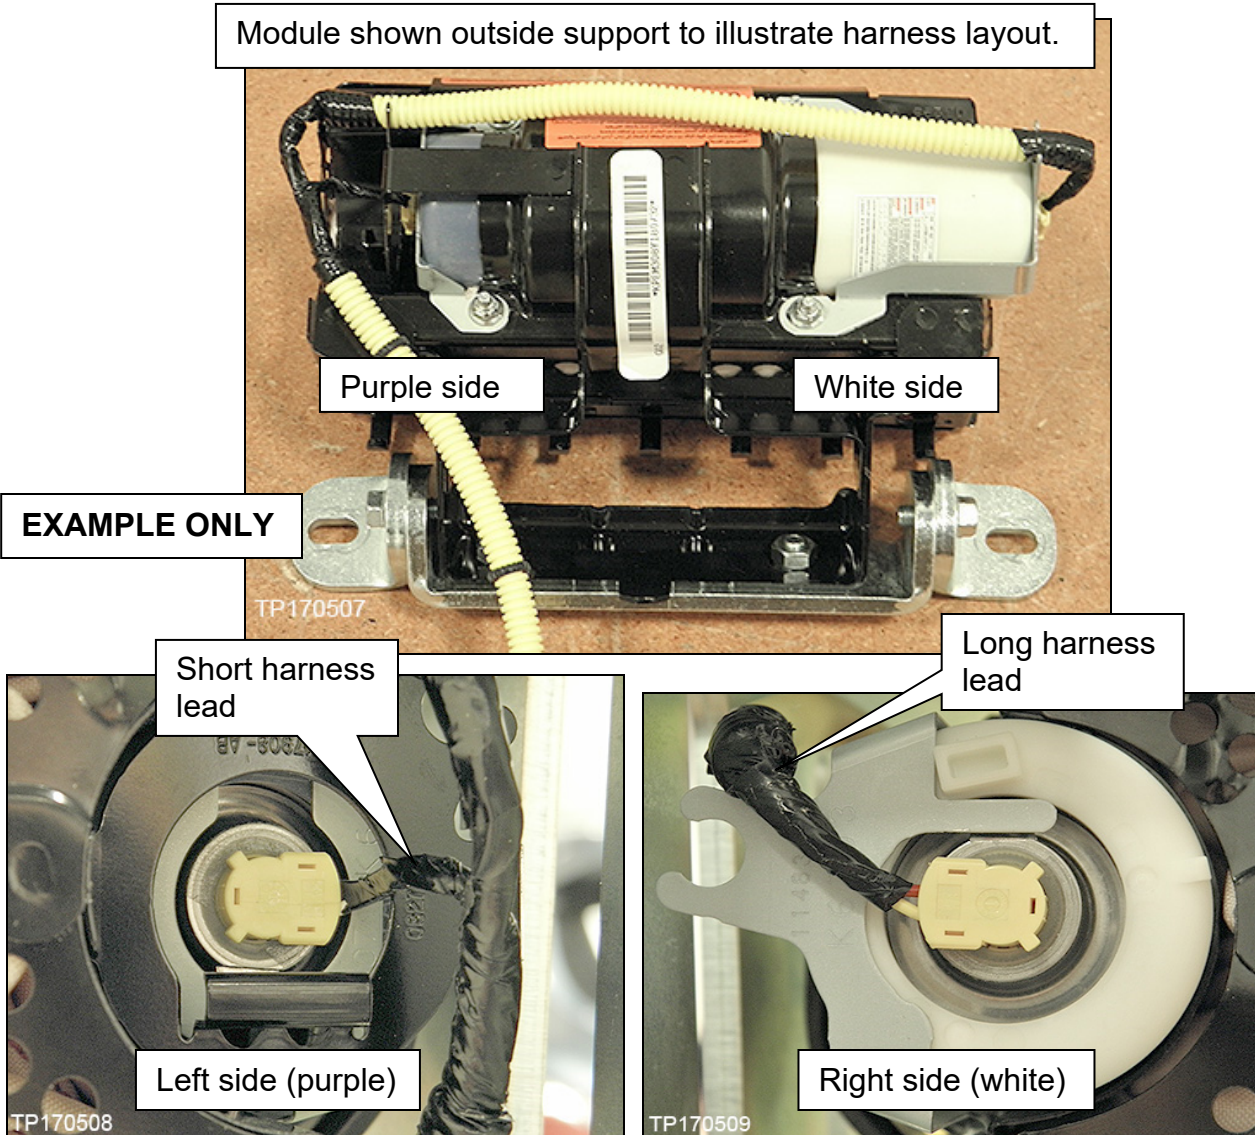

Figure 31
- Make sure to attach the harness correctly - refer to Figures 31, 32 and 33.